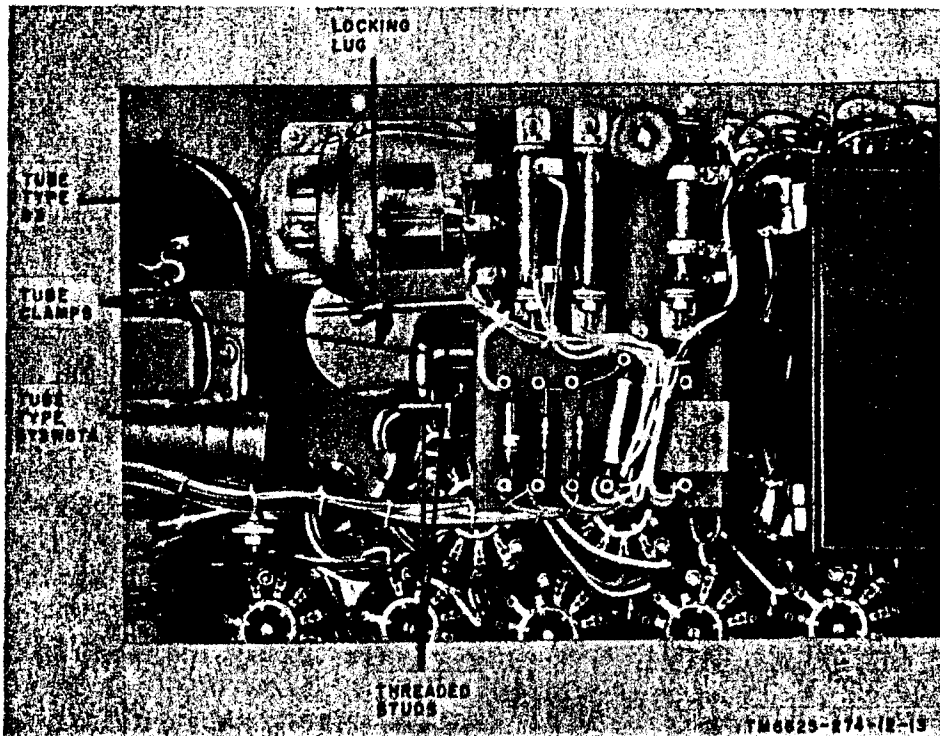

Figure 13. Tube location.
- (1) Remove the chassis from the case (par. 36a).
- (2) Remove the tube clamp (fig. 13) from the threaded stud and remove the tube.
- (3) Replace the tube (*a* above) with one of the running spares.
- (4) Set the tube (or a replacement) in the socket and secure it with the tube clamp.
- (5) Replace the chassis in the case (par. 36b).